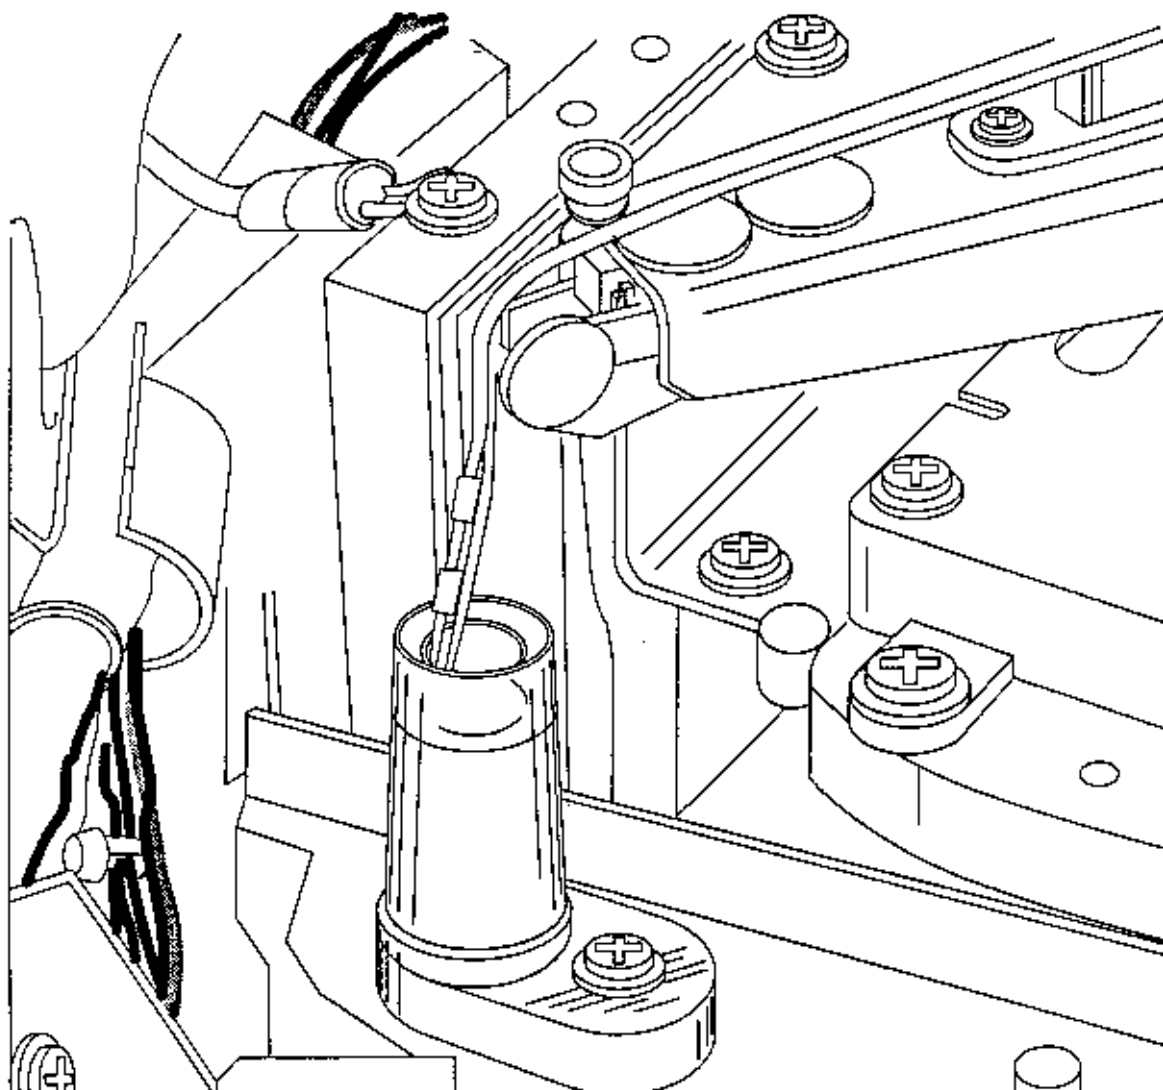

Figure 1
- d. Align the probe front - to - back in the wash station so that the probe is a probe width (1-2 mm) from the front inside wall of the wash cup, at approximately the 6 o'clock position (Figure 1).
- 3. Press the "PRIME" key 3 times. Probe should not hit the inside wall of the wash station as it descends into the wash cup. No splashing should be observed. During washing, the buffer should not rise to the coating on the electrodes.